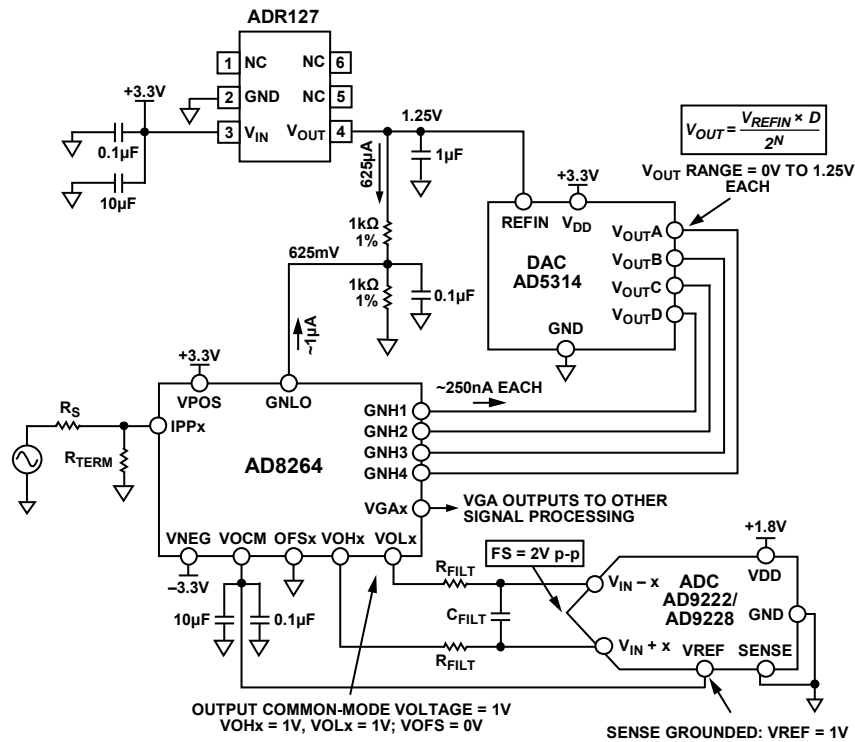
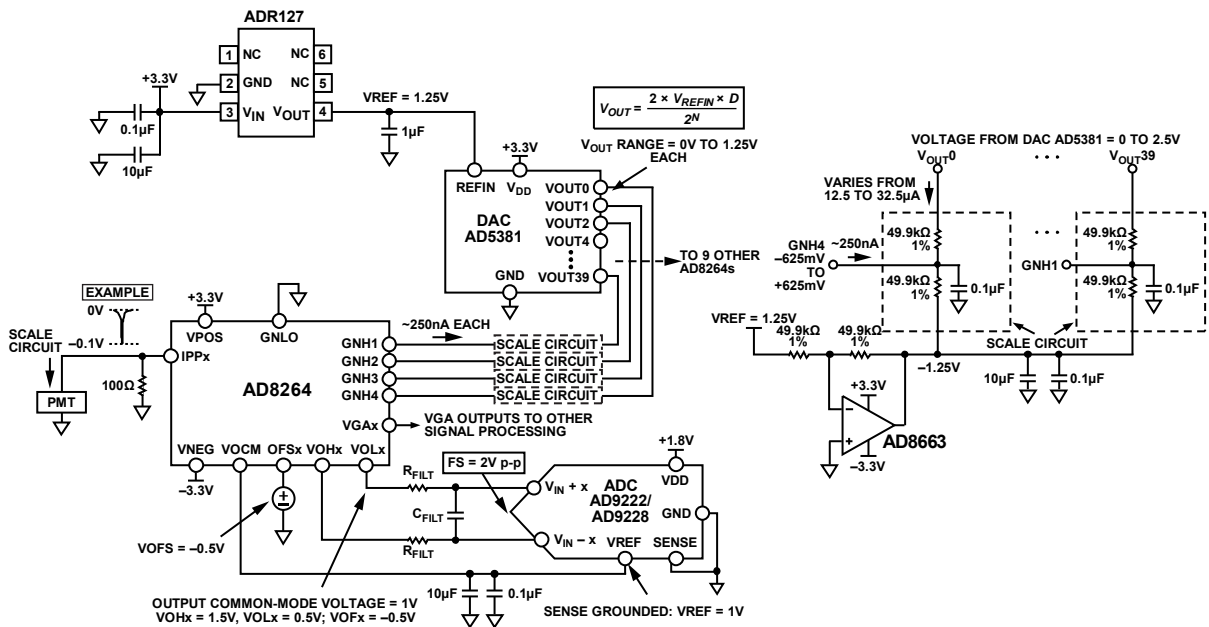

Figure 112. Application Concept of the AD8264 with the AD5314 10-Bit DAC and the AD9222/AD9228 12-Bit ADC
Figure 113. Concept Application of AD8264 with 40-Channel AD5381 12-Bit, 3 V DAC and AD9222/AD9228 12-Bit ADC
The AD8264 is particularly well suited for use in the analog front end of medical PET imaging systems. Figure 112 shows how the AD8264 may be used with the AD5314 (a 4-channel, 10-bit DAC) and the AD9222/AD9228 (an octal or quad, 12-bit ADC, respectively). The DAC sets the gain of the AD8264. Note that the full gain span of 24 dB is achieved with this setup because the gain control input range of the AD8264 is very close to 1.25 V. The GNLO pin must offset by $1.25/2 = 625$ mV because the gain control input is bipolar around the voltage applied at GNLO. This is done with two 1 k Ω , 1% resistors. The approximately 1 μ A of bias current flowing from the GNLO pin does not contribute a significant error because the basic gain error of the AD8264 is the limiting factor.
Figure 112 also includes the DAC output equation, which indicates that the output can vary between 0 V and $V_{\text{REF}} = 1.25$ V.
The single-ended-to-differential amplifier of the AD8264 amplifies the VGA output signal by 6 dB and can provide the required dc bias of the AD9222/AD9228, as shown in Figure 112. The ADC is connected with the default internal reference because the SENSE pin is grounded. With this connection, the AD9222/AD9228 VREF pin is an output that provides 1 V; this is then connected to the VOXM input of the AD8264, which sets the output common-mode voltage of the VOHx and VOLx pins to 1 V. This voltage is very close to the recommended optimal value of $V_{\text{DD}}/2 = 0.9$ V. With this configuration, the ADC inputs are set to a full-scale (FS) of 2 V p-p.
The dc connected concept example in Figure 113 is an application with the 40-channel AD5381, 3 V, 12-bit DAC. The main difference between this example and Figure 112 is that, for the same ADR127 1.25 V reference, the full-scale output of the DAC is from 0 V to $2 \times V_{REFIN} = 2.5$ V. Two options for gain control include the following:
- Use the same circuit as in Figure 112 but use only half the DAC output voltage from 0 V to 1.25 V. This is the simplest solution, requiring the fewest extra components. Note that the overall gain resolution increases by one bit to 11 bits over the 10-bit AD5314.
- Ground GNLO and scale the DAC output so that the GNHx inputs vary from -0.652 V to $+0.625$ V. Figure 113 shows a possible circuit implementation using a divider between the DAC output and a -1.25 V reference.
Figure 113 shows how the AD8264 is connected in a PET application. The PMT generates a negative-going current pulse that results in a voltage pulse at the preamplifier input and a differential output pulse on VOLx and VOHx.
A convenient method of verifying and customizing the signal chains shown in Figure 112 or Figure 113 is by ordering the corresponding evaluation boards available on www.analog.com. The AD8264-EVALZ is a platform through which the user can quickly become familiar with the features and performance capabilities of the AD8264. See the Evaluation Board section for more information.